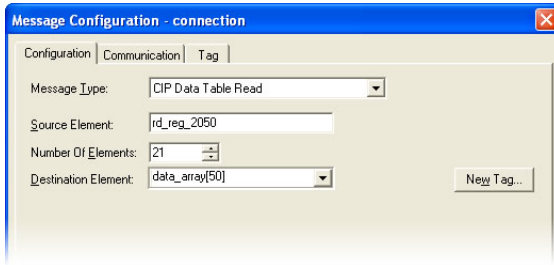

Figure 97: MSG Instruction Configuration
- b) Click the message configuration button ("...") in the MSG instruction. The "Message Configuration" window will open. Refer to Figure 97.